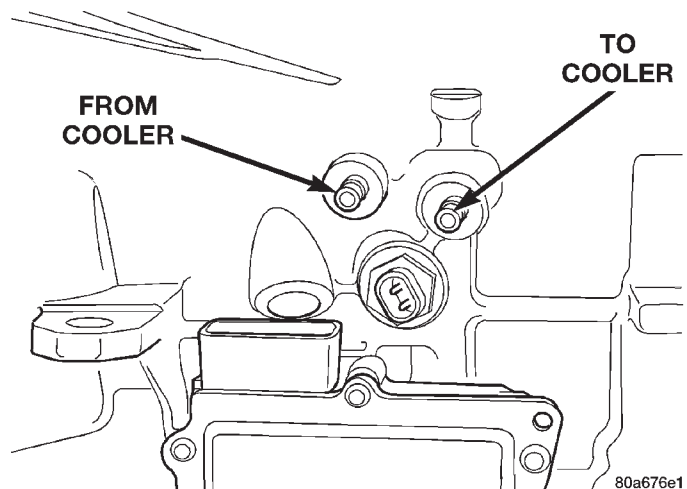

Fig. 7 Cooler Line Location
(1) Remove cover plate filler plug on Tool 6906. Fill reservoir 1/2 to 3/4 full of fresh flushing solution. Flushing solvents are petroleum based solutions generally used to clean automatic transmission components. **DO NOT** use solvents containing acids, water, gasoline, or any other corrosive liquids.
(2) Reinstall filler plug on Tool 6906.
(3) Verify pump power switch is turned OFF. Connect red alligator clip to positive (+) battery post. Connect black (-) alligator clip to a good ground.
(4) Disconnect the cooler lines at the transmission (Fig. 7).
(1) Disconnect the cooler lines at the transmission.
(2) Using a hand suction gun filled with mineral spirits, reverse flush the cooler. Force mineral spirits into the **From Cooler** line of the cooler (Fig. 7) and catch the exiting spirits from the **To Cooler** line. Observe for the presence of debris in the exiting fluid. Continue until fluid exiting is clear and free from debris.